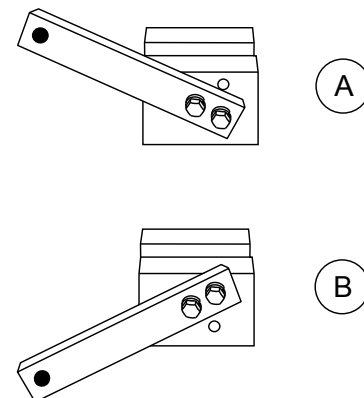

Figure 34. Trowel Arm Adjustment Setup
2. Ensure the fixture arm is in the proper setting (up or down) for your trowel arm rotation as shown in Figure 34.
Arms with **clock-wise** blade rotation use the fixture arm in the UP position (A in Figure 34). Arms with **counter clock-wise** blade rotation use the fixture with the fixture arm in the DOWN position. (B in Figure 34).